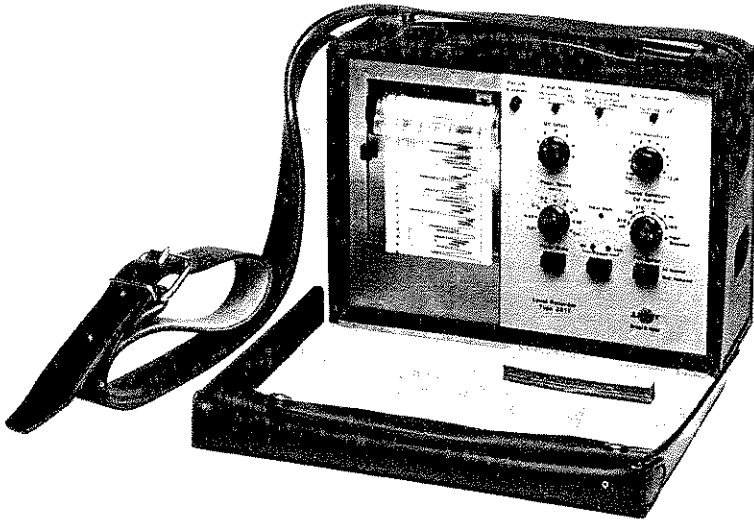

Fig. 3.5. Level Recorder Type 2317
Fully automatic recording of octave- or  $1/3$ -octave frequency analysis can be obtained using Portable Level Recorders Types 2317, 2306 or 2309 (see Fig.3.5).
3. Fasten the Filter Set to the Sound Level Meter and interconnect the REMOTE CONTROL sockets of the Filter and Level Recorder as shown in Fig.3.5. With earlier Type 2306 Level Recorders use cable AQ 0182 (see section-3.3.4.).
3. Fasten the Filter Set to the Sound Level Meter and interconnect the REMOTE CONTROL sockets of the Filter and Level Recorder as shown in Fig.3.5. With earlier Type 2306 Level Recorders use cable AQ 0182 (see section 3.3.4.).